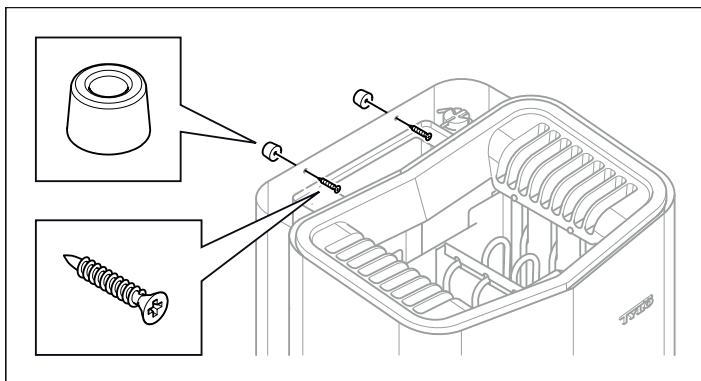

Fig 13: Fit spacers
10. Fit the spacers between heater and wall (to prevent the heater from being lifted off) (see Figure 13).